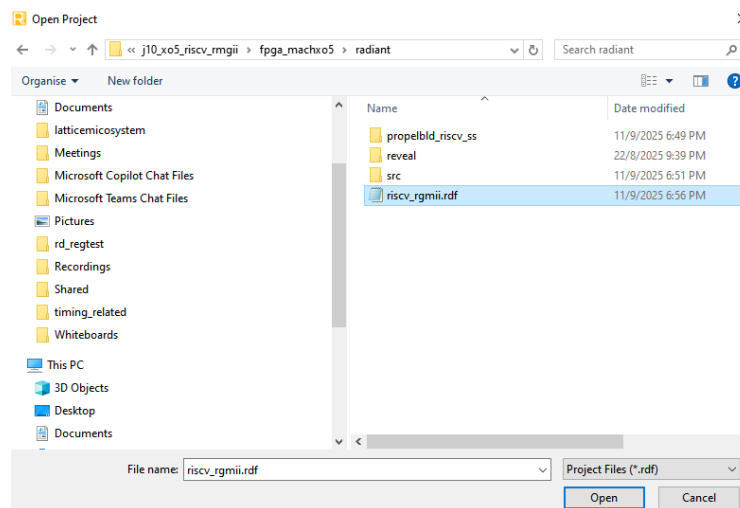

Figure 5.2. Open Project File
2. Click **File > Open Project**, and open the Radiant project file (.rdf) from the `<dir>/fpga_machxo5/radiant` folder, as shown in Figure 5.2.